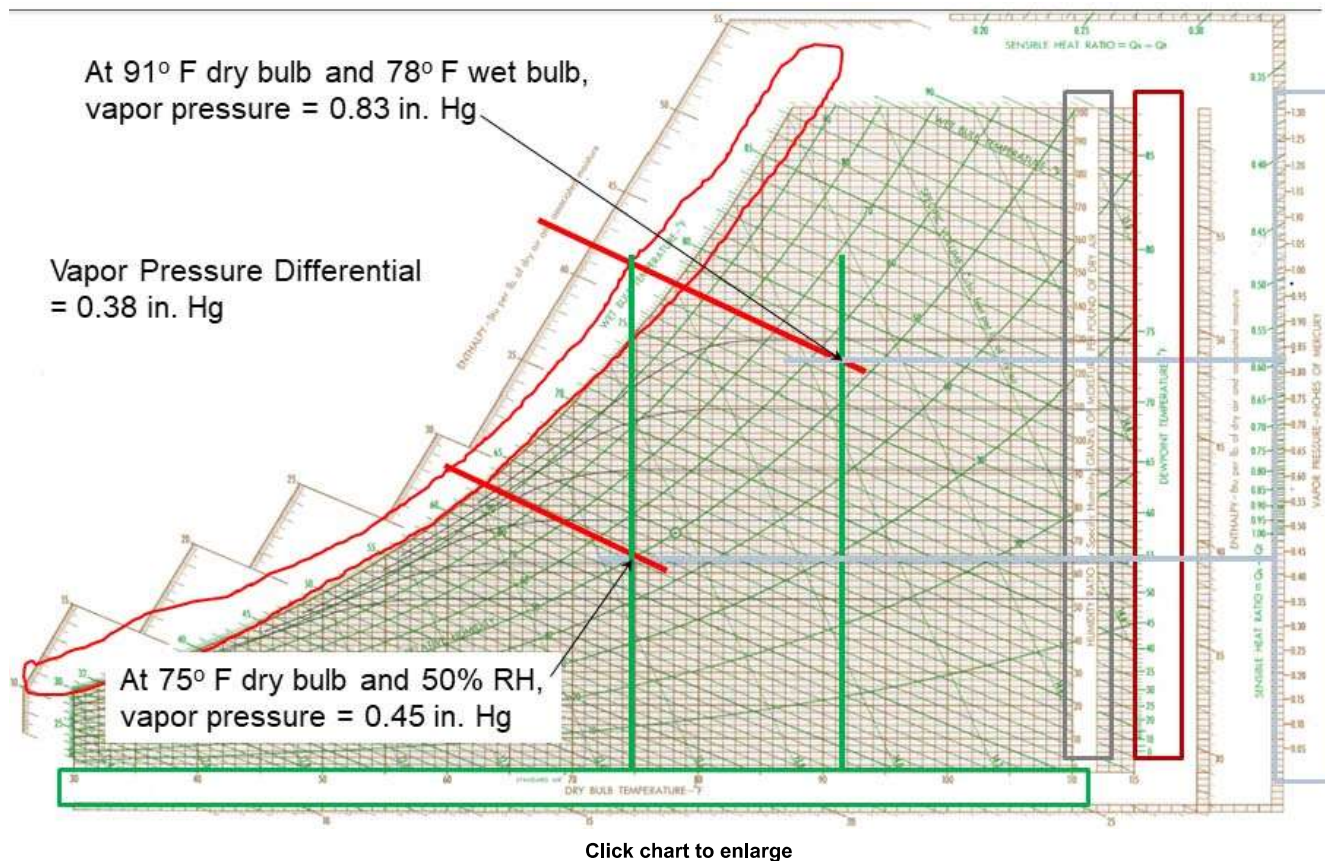

Figure 1: Vapor Pressure between 91°F DB/78°F WB and 75°F DB/50 percent RH = 0.38 inches Hg
An example of this is having a space located in an area where the exterior conditions are typical of south Florida — approximately 91°F dry bulb (DB) and 78°F wet bulb (WB). Per air psychrometric charts from ASHRAE, the vapor pressure at these conditions is approximately 0.83 inches of mercury. Typical indoor space conditions of 75°F and 50 percent RH translate to a vapor pressure of approximately 0.45 inches of mercury. This correlates to a vapor pressure differential of approximately 0.38 inches of mercury. If one were to decrease the indoor space conditions to 70°F and 50 percent RH (vapor pressure – 0.34 inches of mercury), the vapor pressure differential would increase to 0.49 inches of mercury (0.83-0.34). See Figures 1 and 2 below.